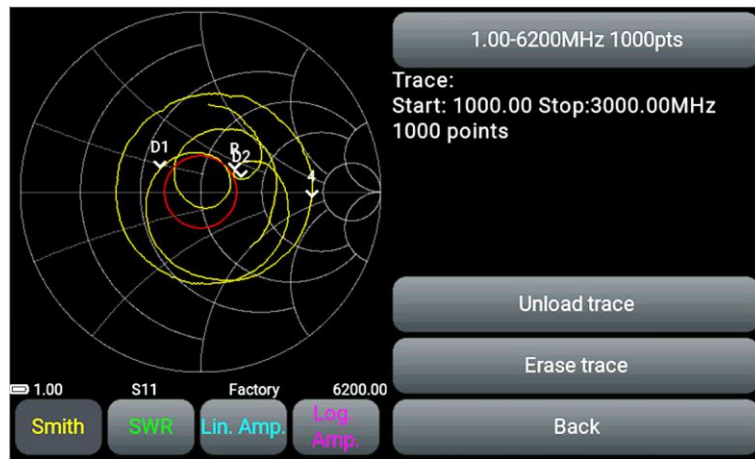

Figure 9.29 - Disable viewing of saved measurement results
9.13.4. Disabling of the measurement results viewing mode is performed by the **Unload trace** button in the **Traces** menu (Figure 9.29). The plots in the mode of viewing the saved results of **Trace S11** or **Trace S21** will automatically switch to displaying the current measurements of **S11** or **S21**.